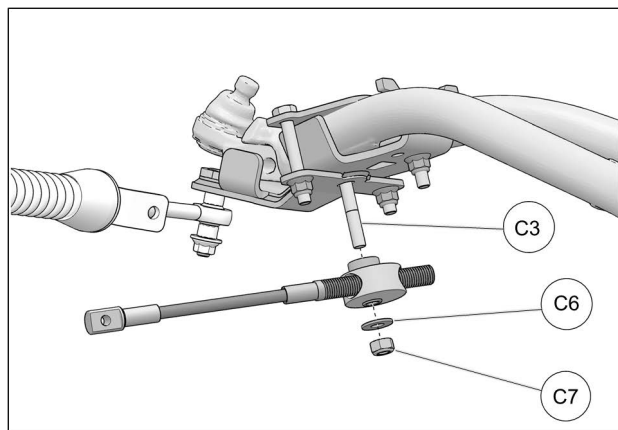

Fig. 25
15. Position Steering limiter cable assembly under front anchor bracket and slide it up on the previously inserted bolt (C3). Assemble using washer (C6) and nut (C7). Tighten nut to 50 Nm [37 lb•ft]. See Fig. 25